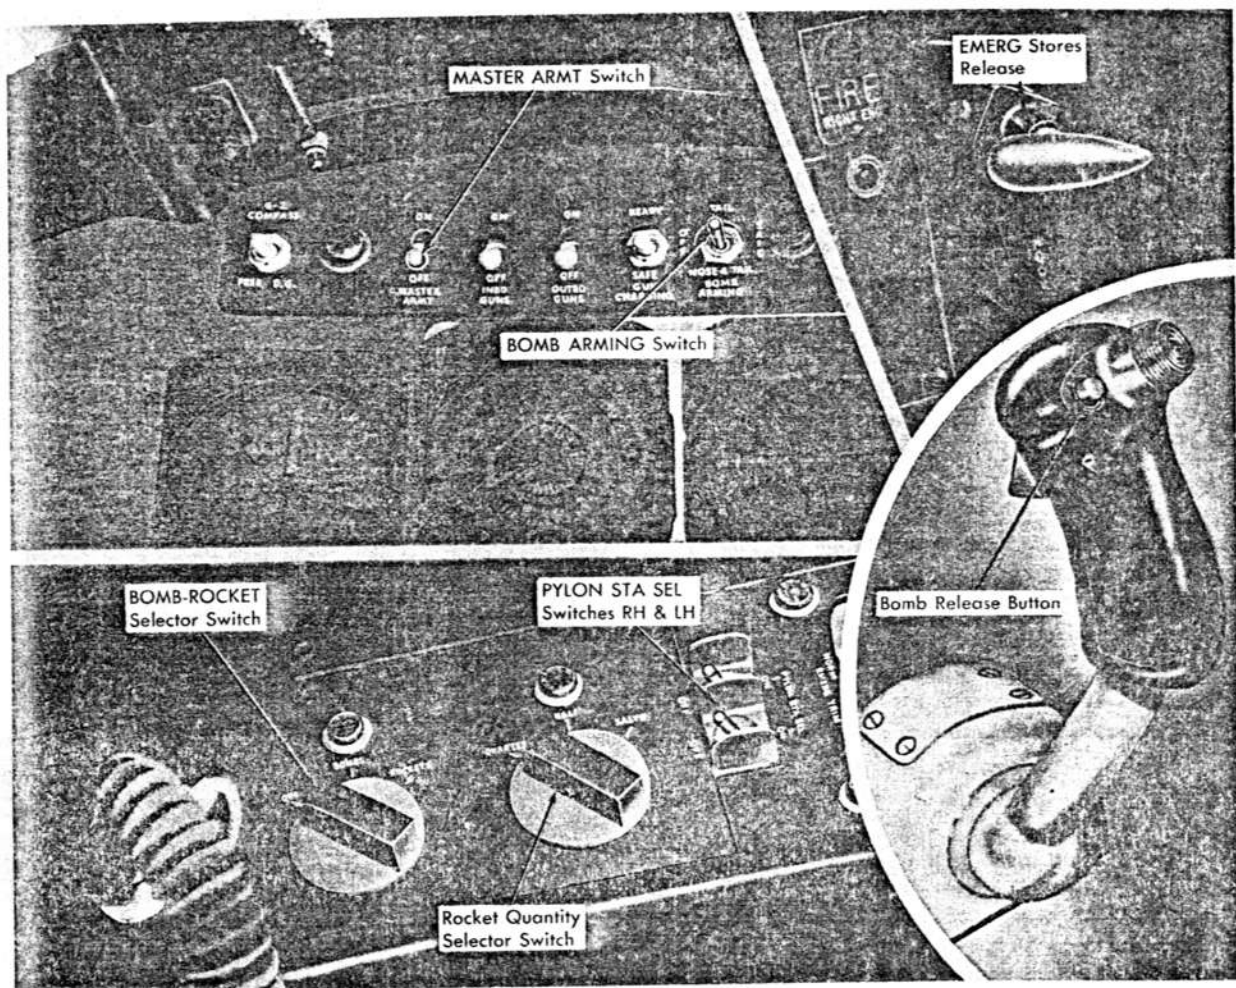

Figure 4-18. Pylon-Mounted Equipment Controls
**BOMB-ROCKET SELECTOR SWITCH.** A bomb-rocket selector switch (figure 4-18), located on the inboard aft end of the left-hand console, permits selec-
**PYLON STATION SELECTOR SWITCHES.** Two PYLON STA SEL switches (figure 4-18) are located on the inboard aft end of the left-hand console. The selector switches permit simultaneous operation of both pylon bombing circuits or operation of only the No. 1 (left-hand) or No. 2 (right-hand) pylon bombing circuit. Switch positions are "ON" and "OFF."
**BOMB ARMING SWITCH.** A BOMB ARMING switch (figure 4-18) is located on the upper right-hand side of the instrument panel. The switch controls selection and arming of the nose and tail fuzes. Switch positions include "TAIL," "SAFE," and "NOSE & TAIL."
**BOMB RELEASE BUTTON.** The bomb release button (figure 4-18), located on the aft left-hand side of the control stick, closes the bomb circuit to release the bombs.
**EMERGENCY BOMB RELEASE HANDLE.** An emergency bomb release handle (figure 4-18) is located on the upper end of the right-hand inclined panel. In an emergency, the bombs may be jettisoned manually by pulling the release handle. The bombs are released unarmed when the arming circuit is inoperative or the BOMB ARMING switch is in "SAFE."
- PYLON STA SEL switches, No. 1 (LH) and No. 2 (RH) ..... "ON"